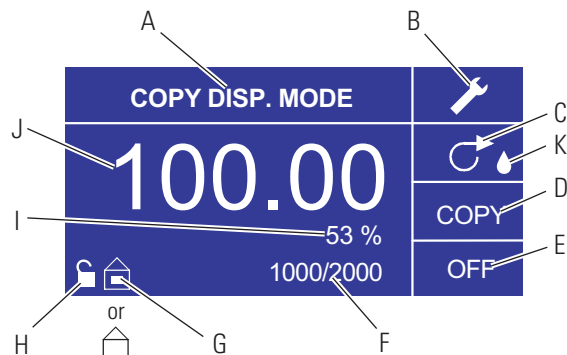

Figure 3-6. Copy Dispense Mode Screen
7. **Setting Batch Size:** Use the directional pad and ENTER key to select the Batch Count icon from the operation screen (see position F, Figure 3-6). From Batch Count screen use the UP/DOWN arrows to select batch size. Press ENTER to validate batch size. When set to zero (0) the drive will run for an infinite number of cycles and the ∞ symbol is displayed. Select EXIT to return to the Copy Dispense Mode screen.
9. **Reset Batch Count:** Use the directional pad and the ENTER key to select the BATCH COUNT icon (see position F, Figure 3-6). In the BATCH COUNT screen, select RESET and press the ENTER key to reset the batch count. Select EXIT to return to the Copy Mode Operation screen.